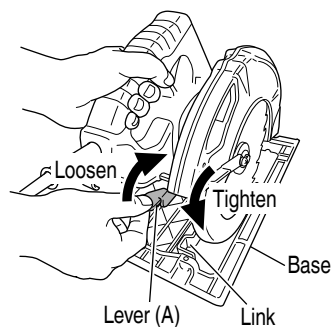
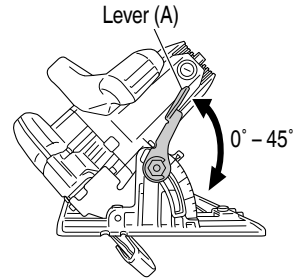

Fig. 7
Fig. 8
7. Check if lever (A)s are tightened.
If the lever (A) to adjust cutting depth (Fig. 7) and lever (A) to adjust angle of inclination (Fig. 8) are loose, injury can result. Make sure that they are tightened securely.
1. Adjusting the cutting depth (Fig. 7)
As shown in Fig. 8 by loosening the lever (A) on the bevel scale, the saw blade may be inclined to an angle of 45° in relation to the base.